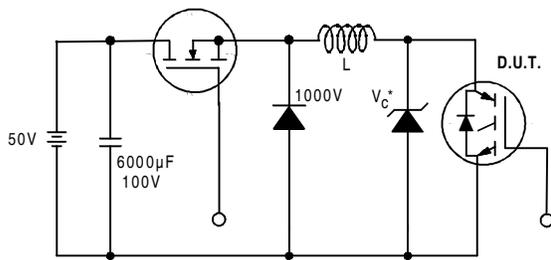

Figure 19. Clamped Inductive Load Test Circuit
- ② $V_{CC}=80\%(V_{CES})$, $V_{GE}=20V$, $L=10\mu H$, $R_G=5.0\Omega$ (figure 19)
- ③ Pulse width $\leq 80\mu s$; duty factor $\leq 0.1\%$.
- ④ Pulse width $5.0\mu s$, single shot.